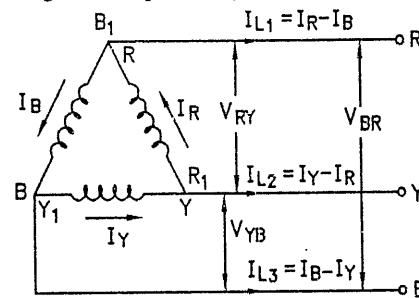

FIG. 2.84 CURRENT AND VOLTAGES IN 3 PHASE SYSTEM
- In delta connection, the three coil windings are connected together such that the finishing end of one coil is connected to the starting end of the other coil and so on as shown in Fig. 2.84.
- Fig. 2.84 shows 3-phase, 3-wire delta connected system. The emf across each winding is called the phase voltage denoted by E_R , E_Y and E_B and voltage between any two lines is called the line voltage denoted by V_{RY} , V_{YB} and V_{BR} respectively.
- It is seen from the Fig. 2.84 that current flowing in each line is the vector difference of the two phase currents